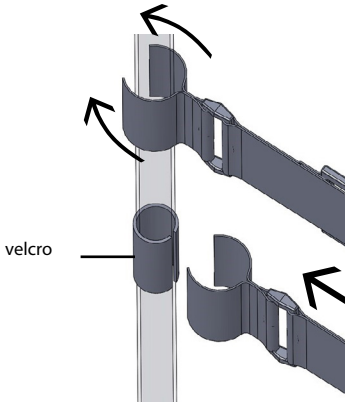

Figure 3
- 2) Place the straps in a regular manner by winding their ends around the backposts beams on each side. (Figure 3)